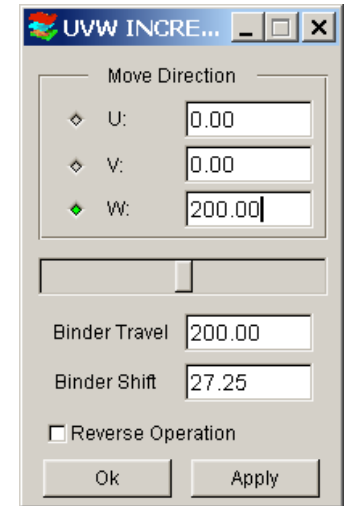

Figure 6.18
- h) Toggle on “W” (Figure 6.18)